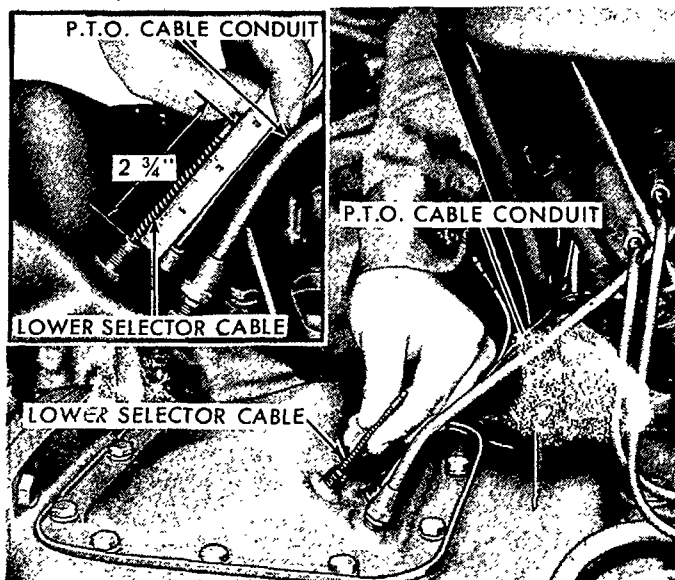

Figure 37
1. Thread the lower selector cable into the cover to obtain a protruding length of $2\frac{3}{4}$ ins. (70.00 mm) as shown in Figure 37. The distance is determined from the top of the fitting to the upper side of the notch. This dimension synchronizes the selector to the control valve when the valve is in the park (P) position.
4. Connect the selector cable to the lower cable extending from the cover and shift the selector lever to park (P) to bring the conduit to the fitting on the cover.